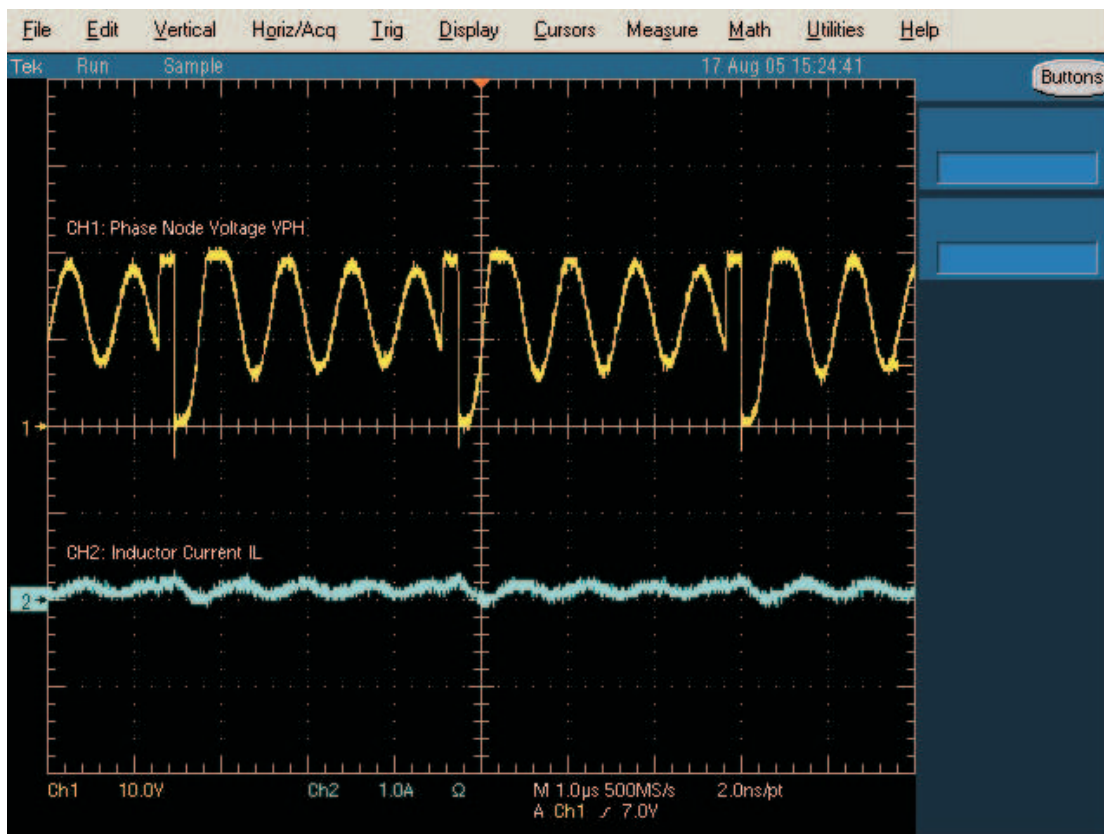

Figure 3. The Waveforms at No Load
- e. Observe \rightarrow Make sure the phase node voltage (PH) and the inductor current waveforms look like Figure 3.